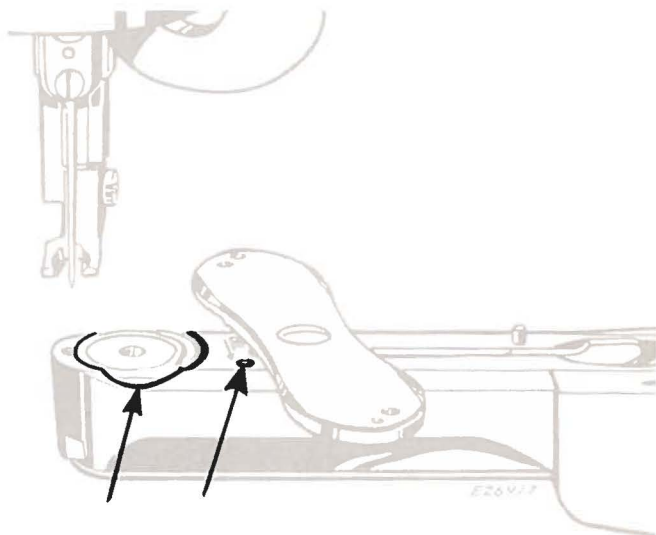
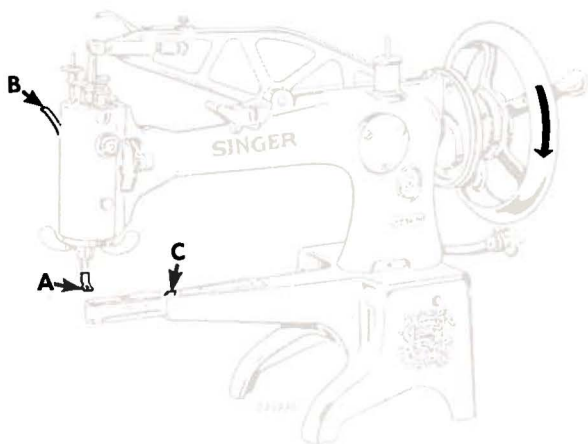
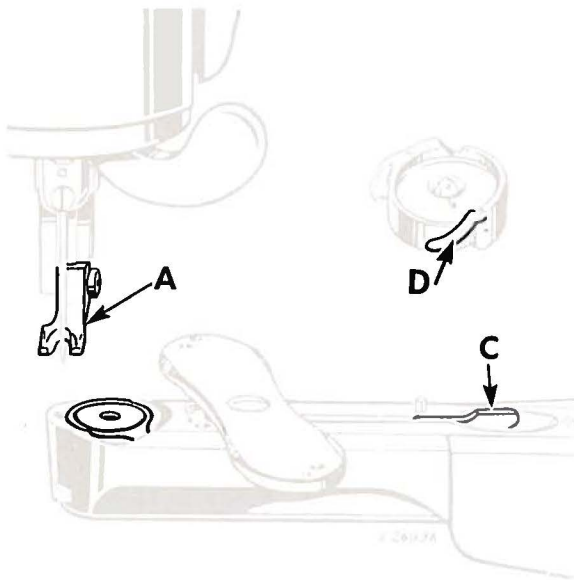

Fig. 4. Oiling Shuttle Race
Fig. 5. Operating Machine
Fig. 7. Taking out the Shuttle
To oil shuttle race, raise needle bar to its highest point and lift feeding foot A, Fig. 5 by moving lifter B upward.
Press down lever C, Fig. 5 and swing needle plate to position shown in Fig. 4.
Apply a drop of oil to the face of shuttle race and to the hole shown by arrow in Fig. 4.
1. Raise feeding foot **A**, Fig. 5 by moving lifter **B** upward.
Raise needle bar to its highest point and lift feeding foot **A**, Fig. 7 by moving lifter **B**, Fig. 5 upward.
Press down lever **C**, Fig. 7 and swing needle plate around as shown.
**NOTE:** For 29K72 machine, move bobbin retaining spring **D**, Fig. 7 outward before taking out the bobbin.